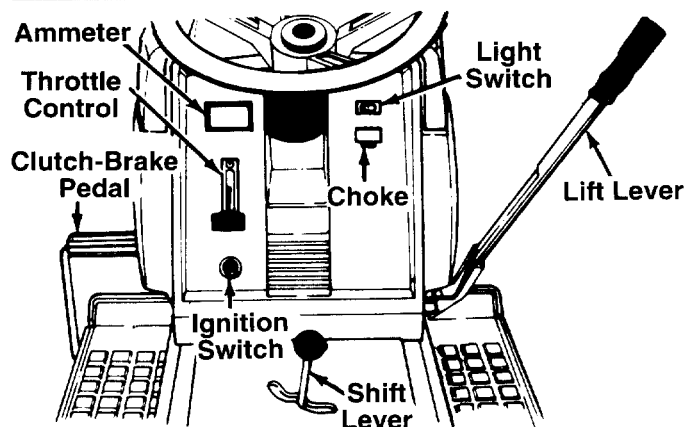

FIGURE 9.—Model 654F Shown
The throttle control is used to regulate the engine speed. To get maximum efficiency from cutting, the throttle should be in the FAST position when operating the mower. See figure 9.
The choke control is located on the dashboard and is operated manually. Details for the choke operation are covered in the separate engine manual packed with your unit. See figure 9.
The shift lever is located in the center of the console and has three positions, FORWARD, NEUTRAL and REVERSE. See figure 9. The clutch-brake pedal must be depressed and the lawn tractor must not be moving when shifting gears. Do not force the shift lever. Release the clutch-brake pedal slightly to line up the shifting collar in the transmission. Then try to shift gears.
Turn the key to the START position to start the engine. When the engine is running, let the key return to the ON position. To stop the engine, turn the key to the left to the OFF position and remove it to prevent accidental starting. See figure 9.
The ammeter registers the rate of battery charge or discharge. The ammeter will register on the discharging side when starting the engine. It should register on the opposite side (charging) when the engine is running in the fast position until the battery is completely charged. With a fully charged battery or with the engine idling, the ammeter will not show a charge. See figure 9.
The clutch-brake pedal is located on the left side of the lawn tractor. Depressing the clutch-brake pedal part way disengages the clutch. Pressing the pedal all the way down disengages the clutch and engages the disc brake. See figure 9.
3. Set the throttle control in the FAST position. See figure 9.
5. Turn the ignition key to the START position. When the engine is running, let the key return to the ON position. See figure 9.